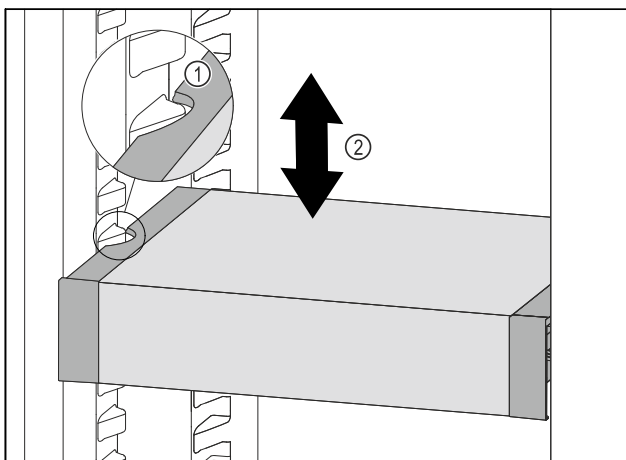

Fig. 111
- Pull VarioSafe forwards until the recesses in the side of the VarioSafe are at the level of the support rib in the refrigerator compartment. Fig. 111 (1)
- Move VarioSafe up or down in the refrigerator compartment until the desired height is reached. Fig. 111 (2)